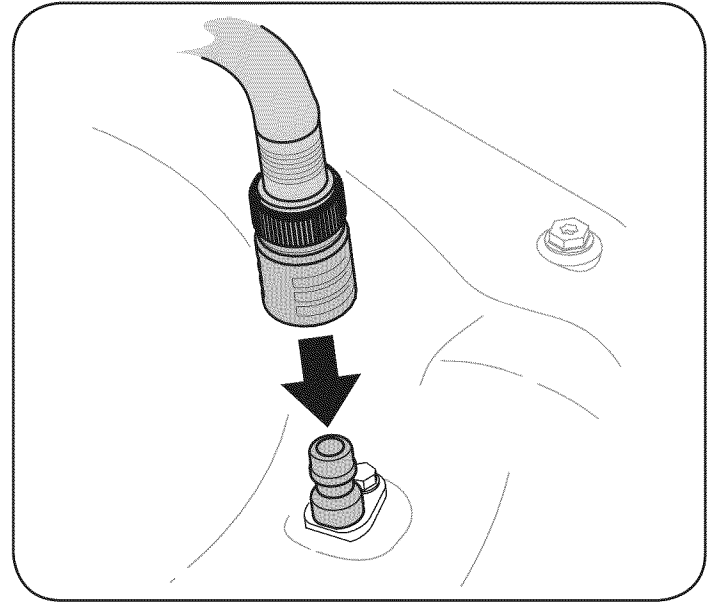

Figure 20
3. Attach the hose coupler to the water port on your deck's surface. See Figure 20.